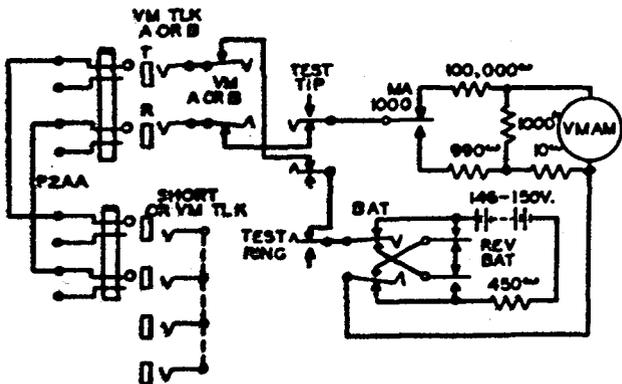

Fig. 4 - Voltage of Testing Battery. Also Continuity, Resistance and Capacitance Between Tip and Ring
3.17 Voltage of Testing Battery (See Fig. 4): To measure the voltage of the testing battery, proceed as follows: